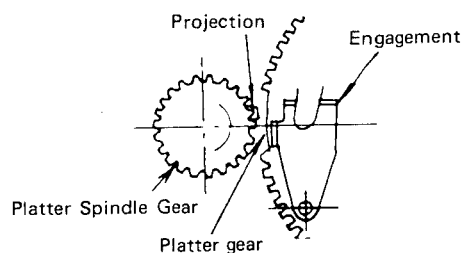

Fig. 1
1. During playing, the notch of the main gear position relative to the turntable spindle gear is as shown in Fig. 1. As the projection is away from the engagement, the main gear does not rotate even though the turntable.